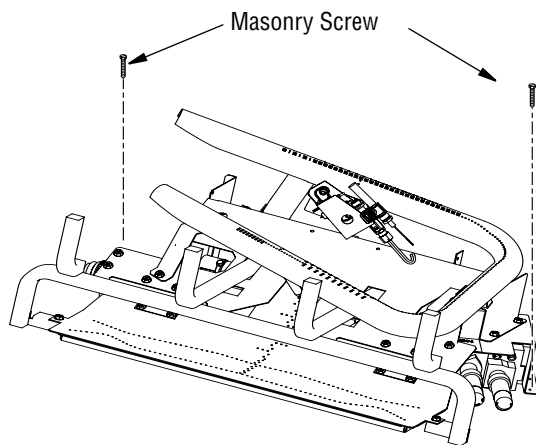

Figure 10 - Attaching Base to Fireplace Floor (Model Shown May Vary from Actual Model)
3. Mark screw locations through holes in front panel of base (see Figure 10, Page 9). If installing in a brick-bottom fireplace, mark screw locations in mortar joint of bricks.
6. Attach base, through holes in back side panels of base, to fireplace floor using masonry screws provided in hardware package (see Figure 10, Page 9).